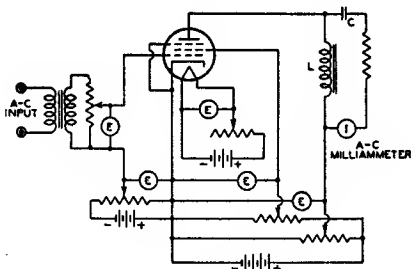

Fig. 68
Fig. 68 shows the fundamental circuit of a power output test for class A operation of tubes. The diagram illustrates the method for a pentode. The a-c output voltage developed across the plate-load impedance (L) is indicated by the current meter. The current meter is isolated as far as the d-c plate current is concerned by the condenser (C). The power output can be calculated from the current reading and known load resistance. In this way, it is possible to determine the operating condition of the tube quite accurately.